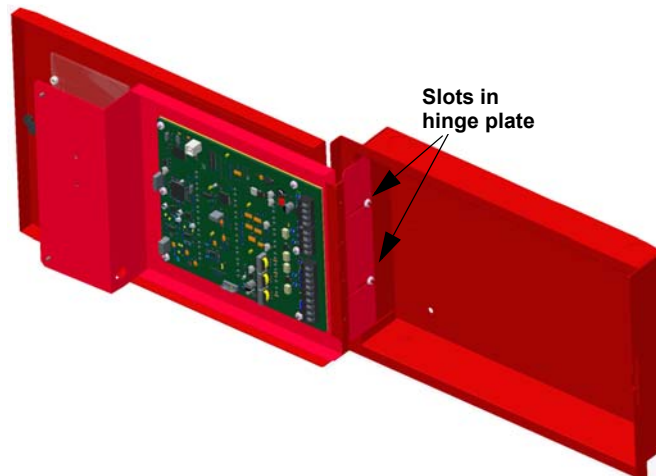

Figure 3 FIK-RPU Module Opened at 180°
3. Open the dead front panel 90° and then pull the dead front forward. Tighten the two nuts. The dead front panel will be able to swing open 180°. Refer to Figure 3.